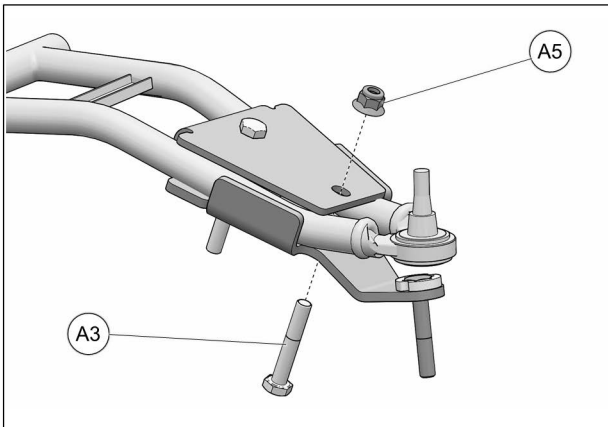

Fig. 20
- Insert the M10x60 mm bolt (A3) through the bottom as shown below and secure the two parts together with the M10 nut (A5) provided. Tighten assembly to 50 Nm [37 lb•ft] of torque. See Fig. 20